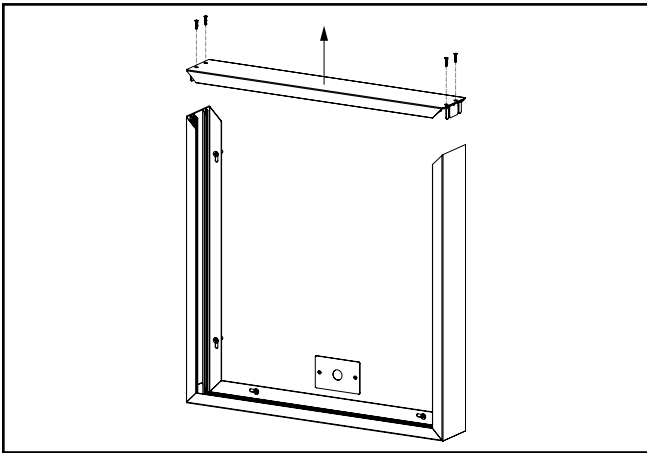

Figure 12.
- B4. Unscrew and remove the top type "B" rail, as well as the L-brackets, and retain for reuse. (Figure 12.)